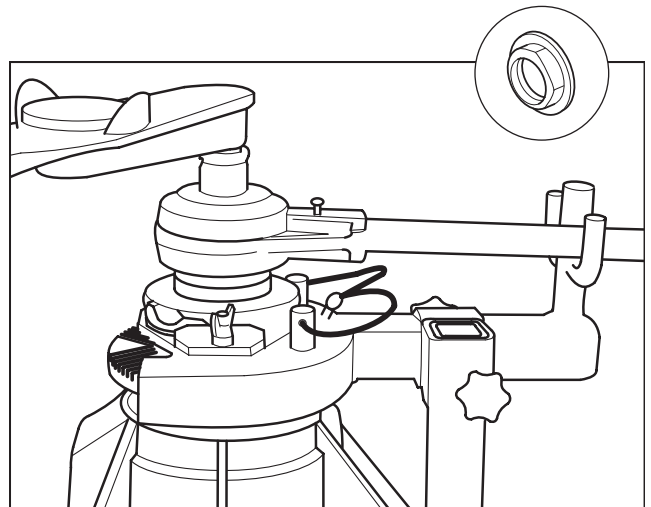

Fig. 2.16
16. Remove pinion lock nut with use of a torque multiplying tool, discard nut and replace with new for rebuild. (Fig. 2.16)